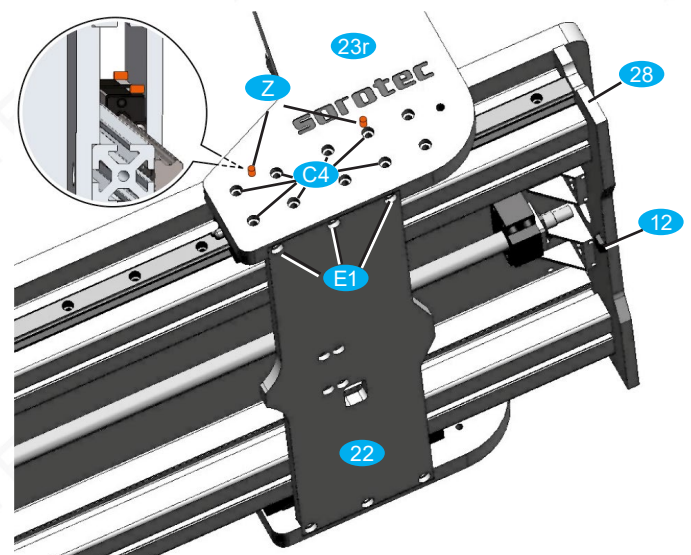

Fig. 9: Installation of portal stringers and beam
- Insert the gantry beam **22** into the recesses of the gantry stringers as shown in Figure 9 and screw in place with cylinder screws M6x16 **E1**; Slightly counter-tighten the screws.